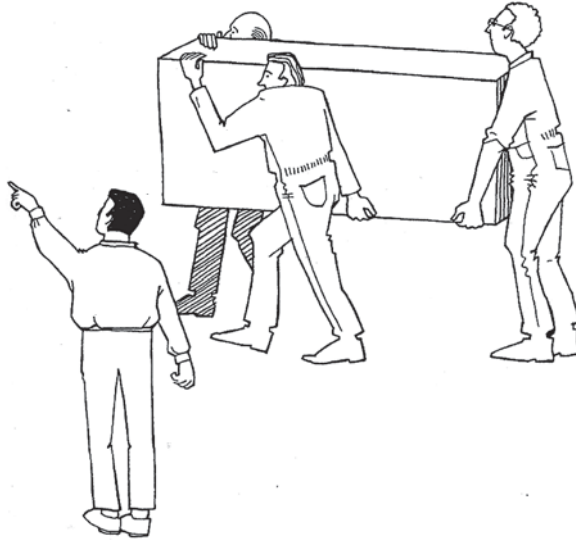

Figure 1
a. What type of lift is shown in Figure 1?
In Figure 1, the person at the front of the picture who is not lifting is the leader of the lift.